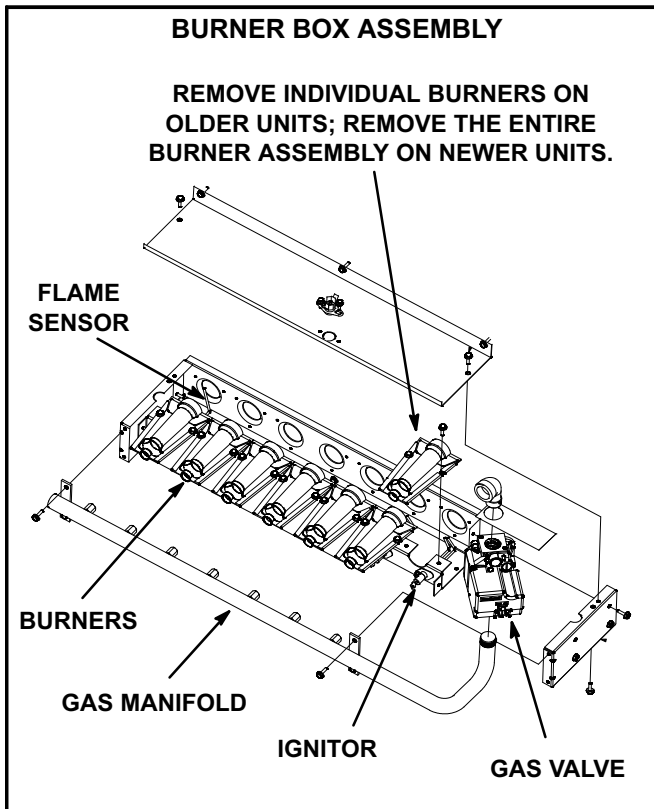

FIGURE 25
- 4- Remove screws securing burners to burner support and lift the individual burners or the entire burner assembly from the orifices. See figure 25. Clean as necessary.